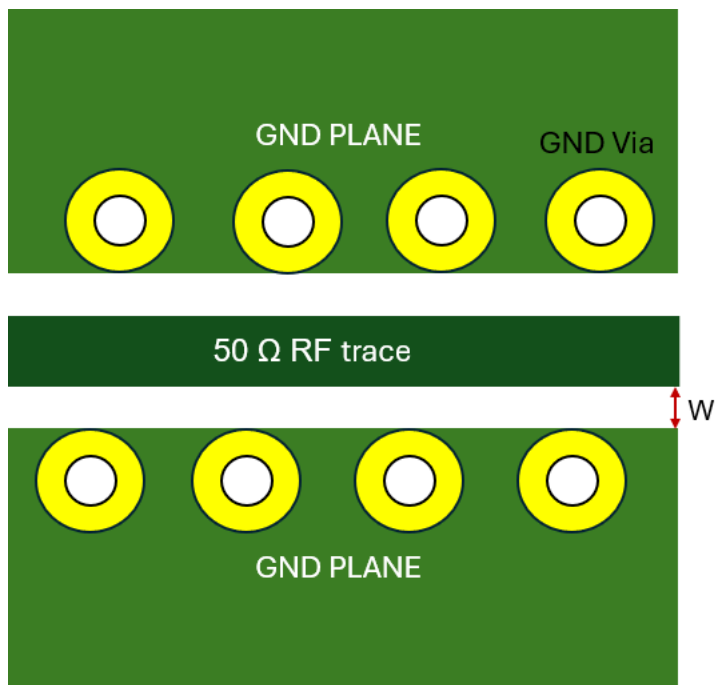

Figure 30. Ground with stitching vias
3. Reference the RF signals to a solid ground plane. Apply multiple vias and add GND stitching vias to increase the performance of the system, as shown in Figure 30.